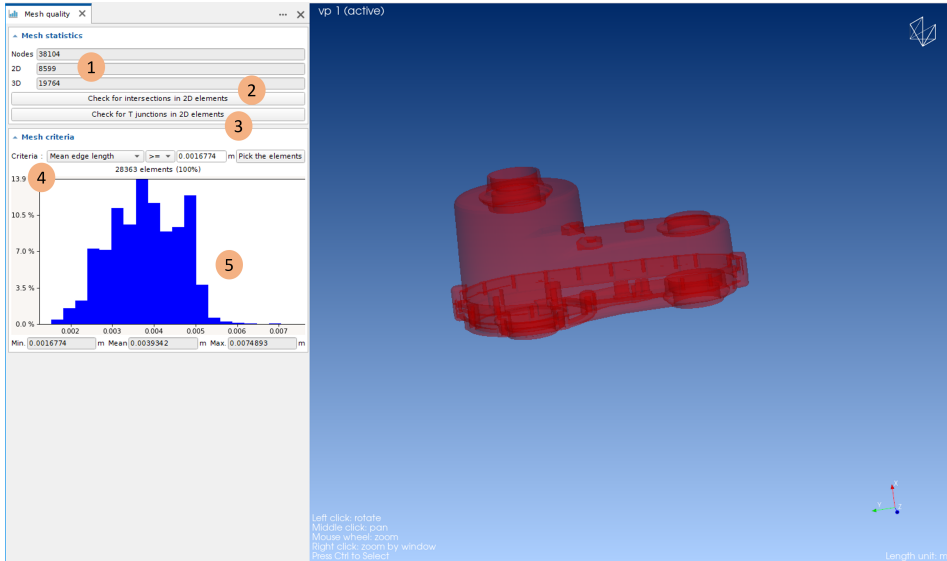

Figure 11.6: Mesh quality information
The Mesh quality tool provides the mesh stats and mesh quality information of the selected PID domains. The information available is: Mesh stats (1), Intersections (2), T junctions (3), Mesh criteria (4) and Mesh histogram (5) (Figure 11.6).